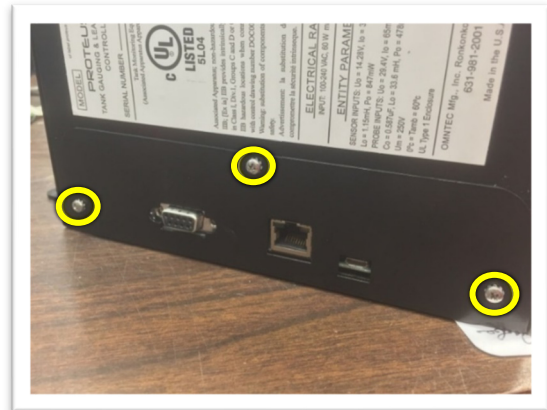

Figure 1.4
- 9) Using the #1 Phillips screwdriver, remove the three (3) screws that secure the EMI shield to the left-hand side of the PROTEUS® K panel. (See Figure 1.4; yellow)